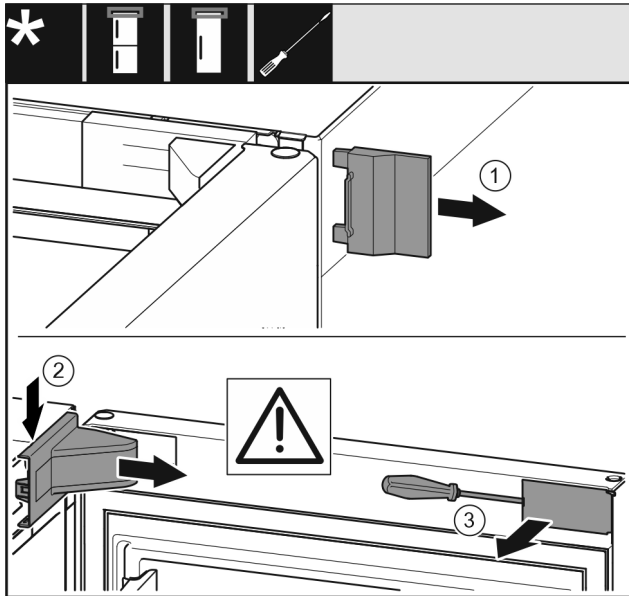

Fig. 9
- ▶ Remove the outer cover Fig. 9 (1).
- ▶ Disengage and remove the swap bearing block cover Fig. 9 (2).
- ▶ Use a slotted screwdriver to unlatch the trim Fig. 9 (3) and swing it to the side.